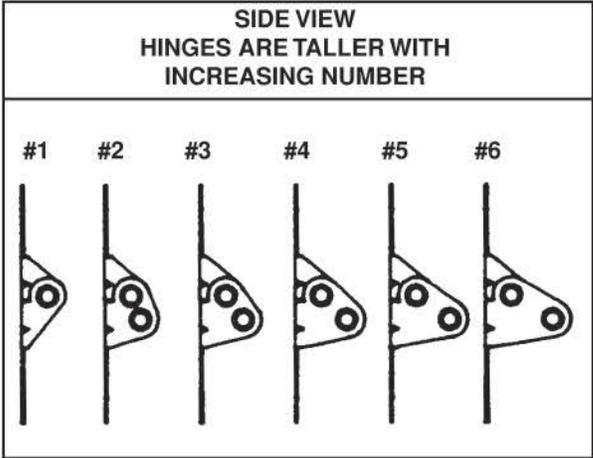

Fig. 2-S
Step 1: On the inside of the garage your opening should be framed with wood jambs, 2" x 6" [51 mm x 152 mm] if possible, or with steel channel as shown in Figure 1-J. The side jambs should extend to approximately the same height as the headroom required. If you have just removed an old door, the condition of the jambs should be inspected. If the jamb has deteriorated, it should be replaced now. The jambs should be plumb and the header level. If there are any bolts fastening the jambs to the wall, the heads should be flush so they don't interfere with the installation of your new door. (FIG. 1-J) Typical installation for wood, steel or masonry jamb material is shown in Figure 2-J.
- Rollers in end hinges will use farthest sleeve from section. (FIG. 2-S)
Some have flanges which hook under the bottom section and some do not. Install cables, then position the bracket in place. (FIG. 1-S) Install hinges on end and center stiles of the bottom section using #14 x 3/4" [6 mm x 19 mm] self-drilling screws. See Figure 2-S for sequence and hinge placement. For Model 901 doors and doors with Full Vision see page 13. Stack bottom section in opening. **Long stem rollers provided go into bottom brackets.** Install vertical track as described on page 15. Top rollers will hold section in place.
Section Seal. If section seal is provided or bought as an option, it should be installed over the inside ship lap or inside the groove as indicated in Figure 1-LAP and Figure 2-LAP.
#2 Section. Attach bottom half of center hinges to top of section using #14 x $\frac{5}{8}$ " [6 mm x 16 mm] hex head sheet metal screws. Attach end hinges. (FIG. 2-S) If section has lock see Step 4 for sequence. Stack section. After section is stacked, rollers in the track will hold section in place. (If struts are supplied see Figure 3-S for placement.)
Step 5: #3 Section (and up to, but not including, top section). Attach bottom half of center hinges to top of section using #14 x 5/8" [6 mm x 16 mm] hex head sheet metal screw. Attach end hinges. (See Figure 2-S, page 8, for sequence.) After section is stacked, rollers in the track will hold section in place. (If struts are supplied see Figure 3-S, page 9, for placement.)